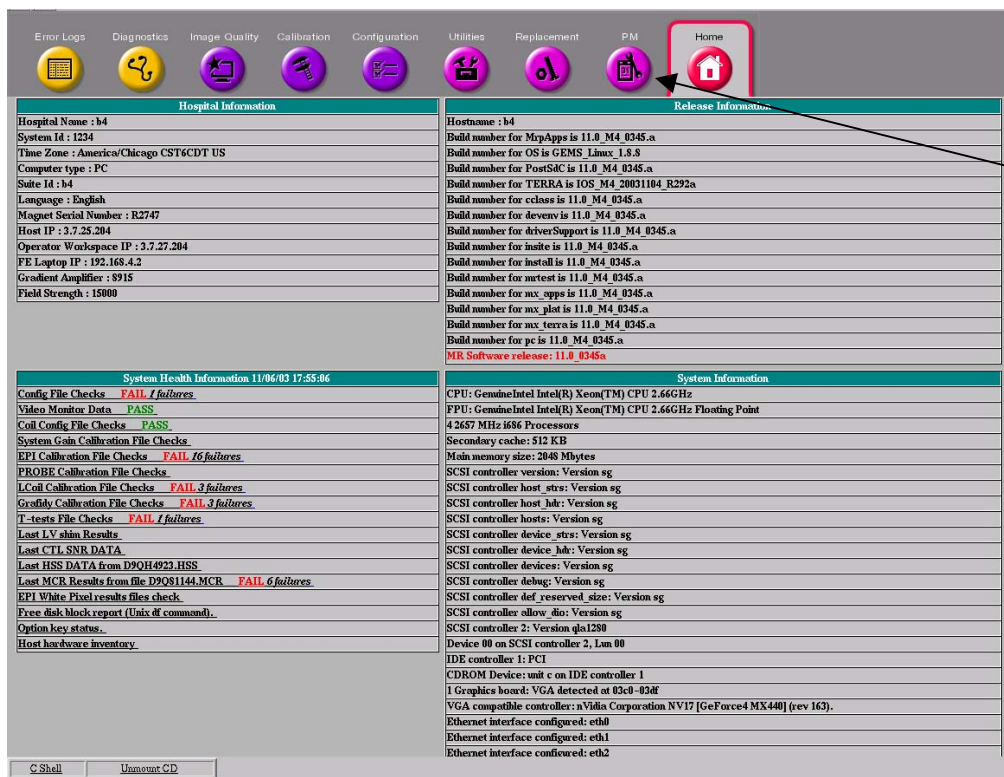

Figure 13
25. When the Common Service Desktop home page shown in Figure 13 opens, click on the PM icon.